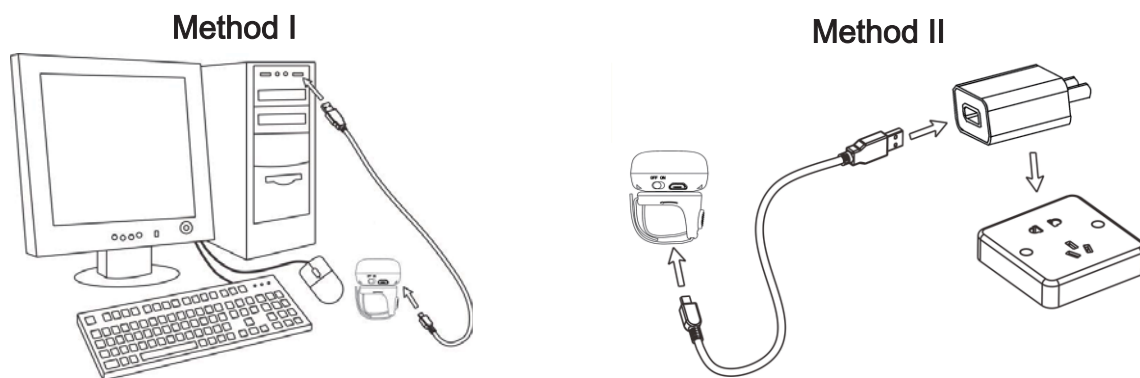

Figure 3-1 Diagram of charging battery
1. **Please charge the scanner before the first time of use.** There are two methods of charging battery as demonstrated in Figure 3-1. The charging indicator (red LED) on the scanner is turned on when the charging is in process. When the charging process completes, the red LED is turned off.